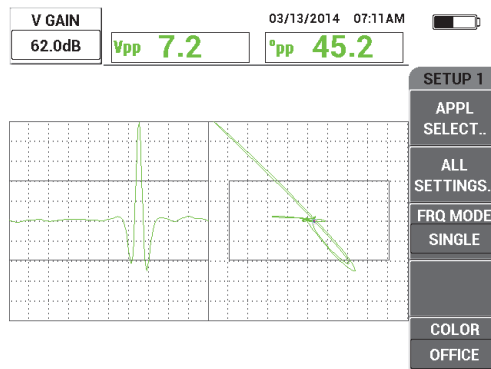

Figure 3-8 Adjusting the vertical gain
- Press the GAIN key (**dB**) two more times to access the V GAIN parameter, and then adjust the vertical gain with the knob until the signal reaches the top of the screen, which is 100 % screen height (see Figure 3-8 on page 36).